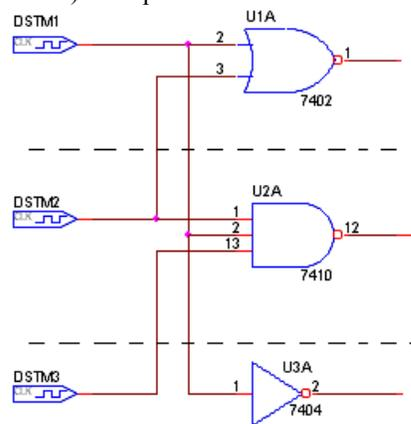

Figure A-5.
- Create the following circuit (Figure A-5) in PSpice.